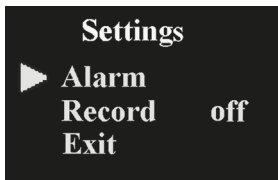

Figure 7
Press and hold the power button (1 second) to enter the Settings Menu Interface (see Figure 7).
- a. On the main menu interface as shown in Figure 7, Click the button to select "Record", then press the button to choose whether to store the data or not, choose "on" to allow storing, choose "off " to prevent storing.